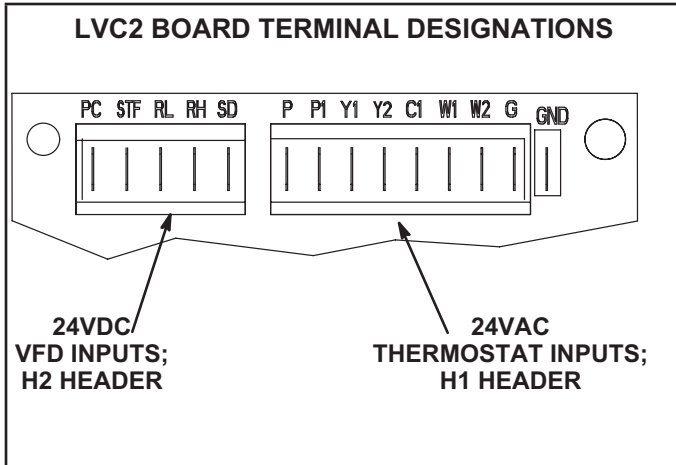

FIGURE 31
To save energy during ventilation, the blower speed can be set to low. This is accomplished by changing the ventilation speed switch on the VFD control board to "LO". See figure 31.
To maintain required minimum ventilation air volumes when the unit is in the occupied mode, two minimum damper positions must be set. A high and a low speed potentiometer are provided on the VFD control board to adjust minimum damper position. See figure 31.
- 3 - Check for 24VAC signal at the thermostat blower input (G to GND terminal). See figure 31